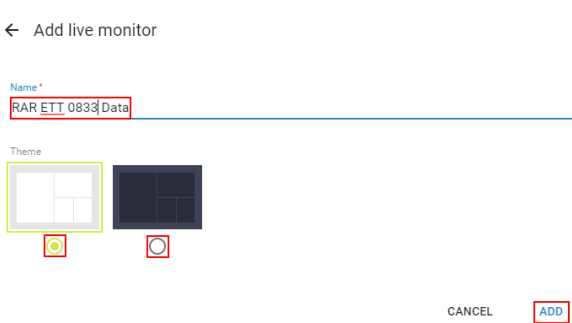

Figure 5.83 Assign a dashboard name and select theme.
4. Assign a name to the dashboard and select the design theme (Figure 5.83). Click “Add” to move to the design step.